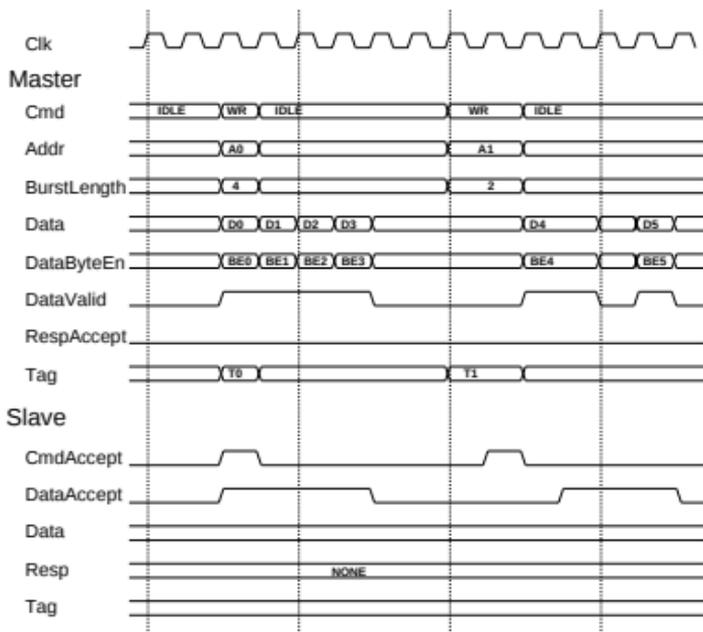

Figure 16: Burst Write
**Figure 16, "Burst Write"** shows 2 burst writes. A single command is issued for multiple data word transfers. The command protocol operates in exactly the same manner as for single beat transfers. Multiple data transfers occur for each command. Data transfers only occur when both DataValid and DataAccept are asserted. The master must wait on DataAccept being asserted before presenting the next data word. The slave must check that DataValid is asserted when receiving data. The slave may assert DataAccept even if DataValid is not asserted.